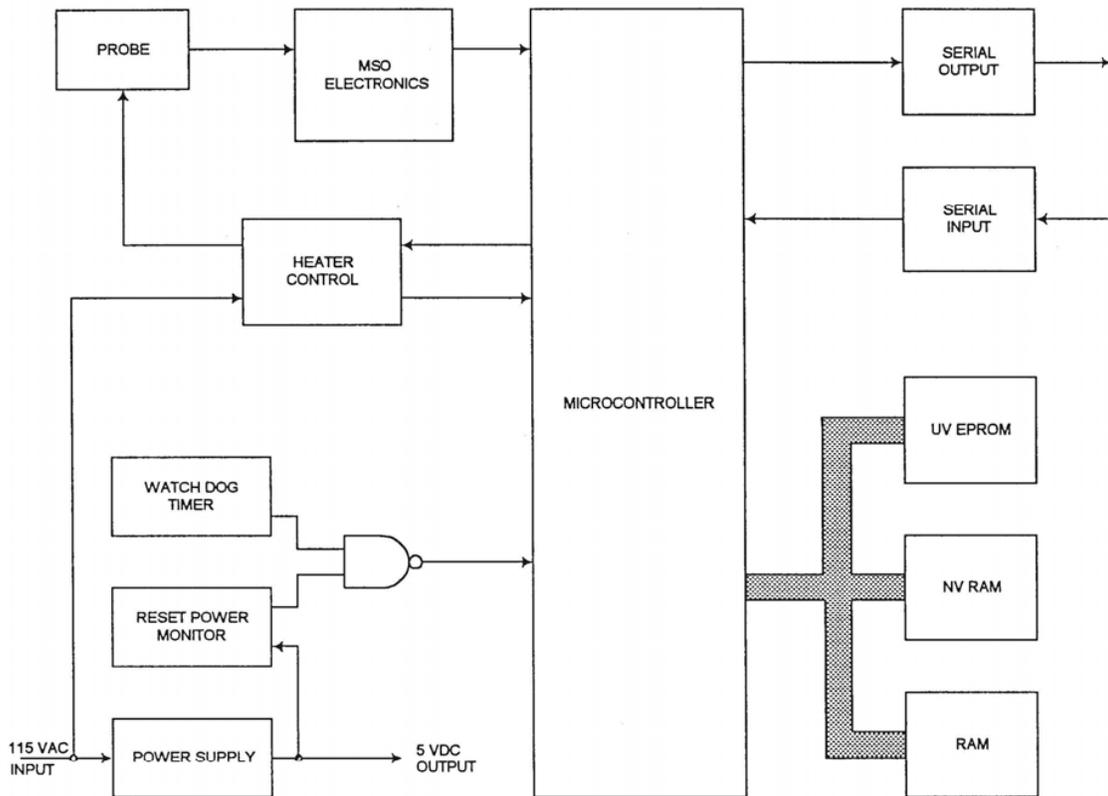

Figure 3. Electrical Block Diagram
Refer to Figure 3 for removal of Output Interface CCA.
Refer to Figures 3 and 4 for removal of Main CCA.
9. Remove two remaining wires from terminal block (see Figures 3 and 4).
Refer to Figure 3 for removal of strut and probe assembly from heat sink.